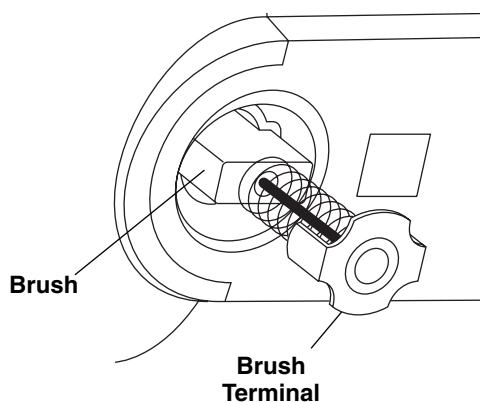

Figure 39. Motor Brush
3. Pull out the brush (Figure 39). Repeat for the opposite side.